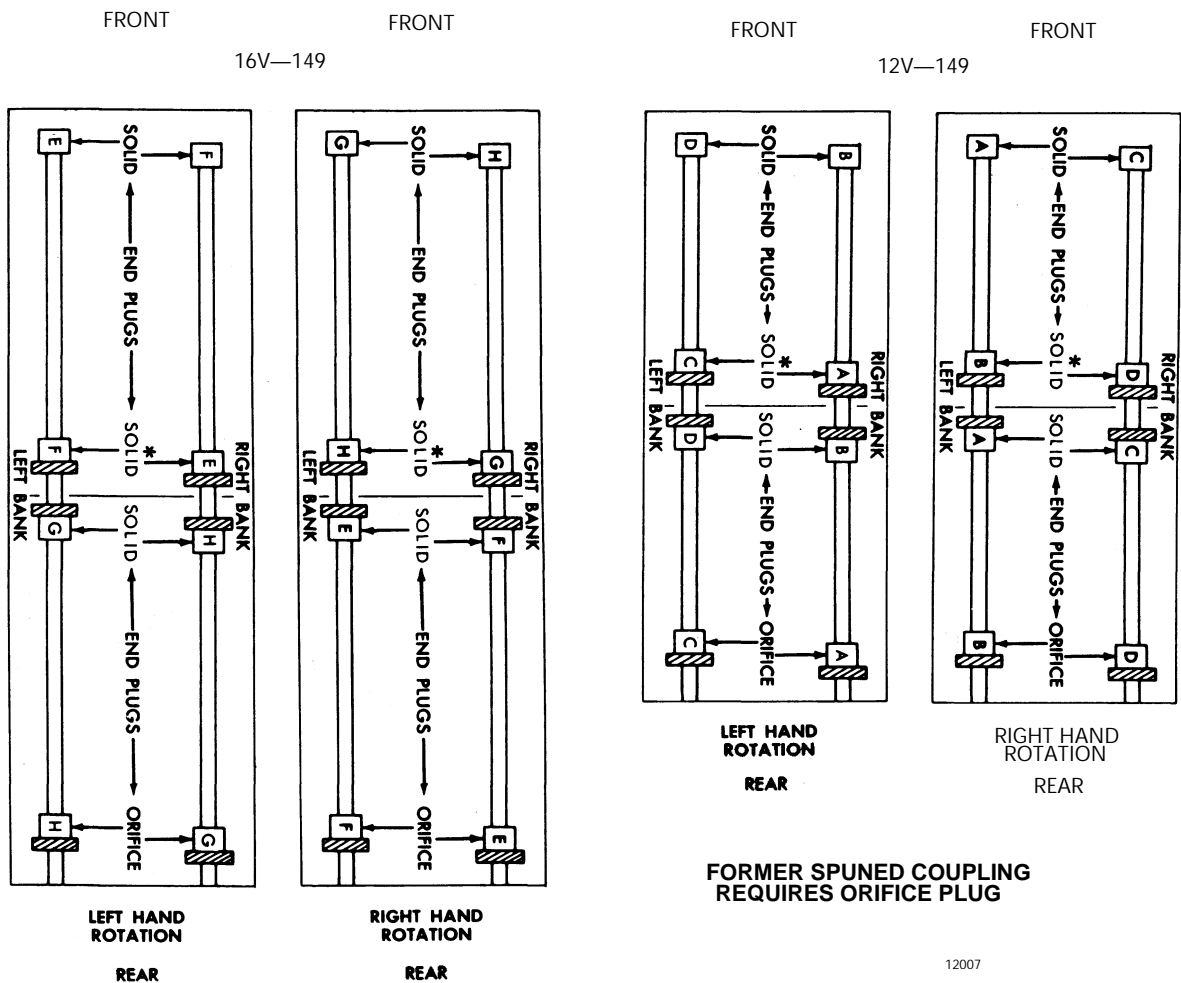

Fig. 4 - Location of Camshafts and Plugs - 12V, 16V-149
After the camshafts and related parts have been inspected and worn parts replaced, refer to Fig. 4 and proceed as follows:
1. If removed for inspection or cleaning, install new end plugs in the camshafts. Refer to Fig. 4 for the proper location of the solid and orifice plugs.
7. Install the right-bank front and left-bank rear camshaft assembly in position in the cylinder block. Refer to Fig. 4 and Step 4 for rotation and camshaft position.